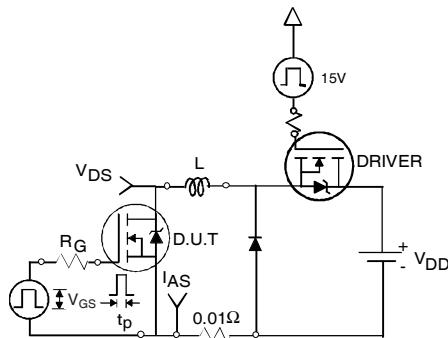

Fig 24a. Unclamped Inductive Test Circuit
3. Equation below based on circuit and waveforms shown in Figures 24a, 24b.